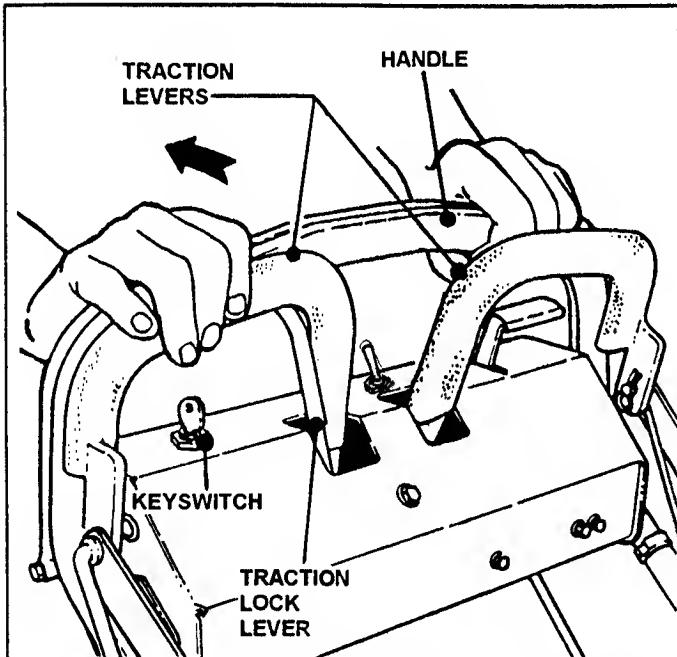

FIGURE 2
1. Squeeze both Traction Levers firmly against the Handle to stop forward or reverse motion. Using your right hand thumb, push the Traction Lock Lever full forward into Park Brake position. See Figure 2.
2. Pull Blade Clutch Switch backward (toward handle) to the OFF position. See Figure 2.
4. STOP ENGINE by turning Key switch to OFF. See Figure 2.
1. Pull both TRACTION LEVERS toward the Handle to stop forward or reverse motion, while pushing the Traction Lock Lever full forward until it locks both Traction Levers in Park Brake position. See Figure 2
2. Pull the Blade Clutch Switch backward to the OFF position. See Figure 2.
- 2a. Pull both Traction Levers toward the Handle while pushing Traction Lock Levers forward until it locks the Traction Lock Lever in Park Brake Position. Refer to Figure 2.